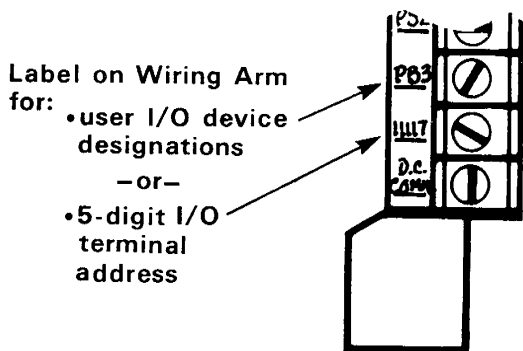

Figure 3.26 – Wiring Arm Labeling
- **Field Wiring Arm labeling** – Space is available on each Field Wiring Arm for labeling. This can be used for the 5-digit address of connected devices, or for any user designation for each device. (Refer to Figure 3.26.)